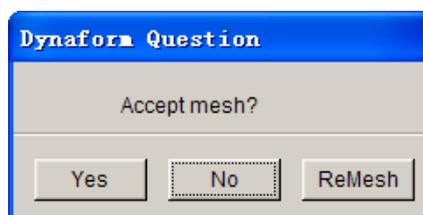

Figure 5.9 Question dialog box
- Click **OK** button to confirm the radii. **Dynaform Question** dialog box prompts “**Accept Mesh?**”, as shown in Figure 5.9. Click **Yes** button to accept the generated mesh.